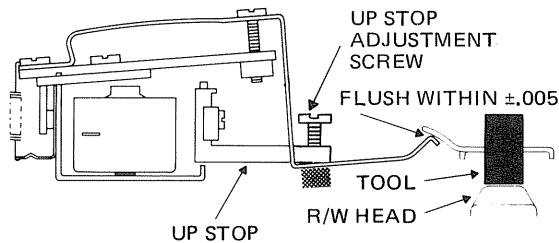

FIGURE 2 HEAD LOAD ACTUATOR UPSTOP ADJUSTMENT
- h. Adjust up stop on actuator so that bail just touches Head Load Arm or has $.005"$ clearance or lifts Load Arm $.005"$. Reference Figure 2.